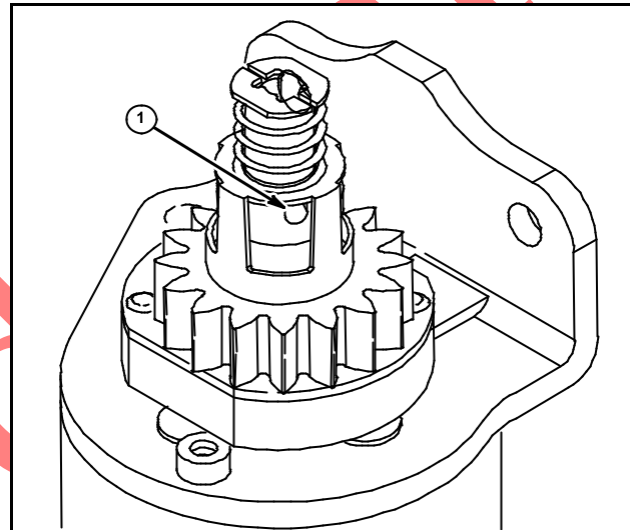
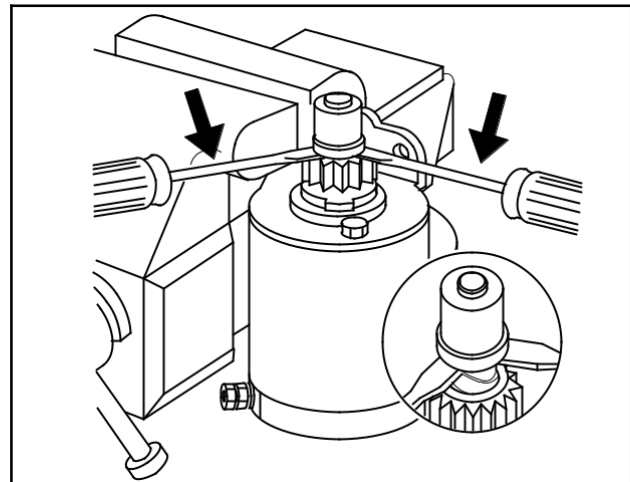

Fig. 64
Fig. 65
NOTE: Some starter drive assemblies utilize a gear return spring. Two styles of returns have been used. Current style, Fig. 64 and early style, Fig. 65.
The current style is removed after removing the roll pin (1). The early style is protected by a plastic cap over the drive assembly. Carefully remove the plastic cap from the cup using two screwdrivers, Fig. 65.